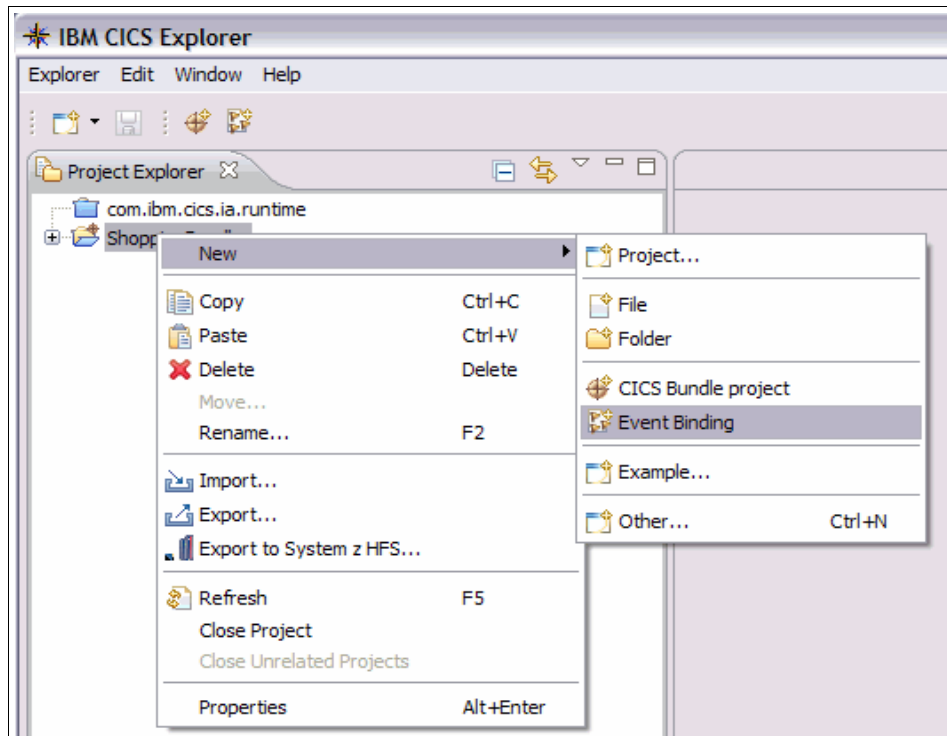

Figure 5-3 Creating event binding
3. Create the event binding within this bundle. In the Project Explorer view right-click the just created project, ShoppingEventBundle. Click **New Event Binding** as shown in Figure 5-3.